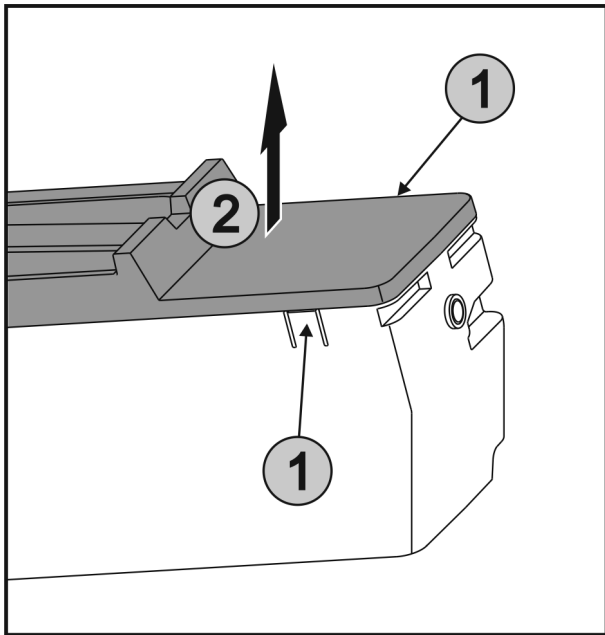

Fig. 55
- ▶ Press the lugs Fig. 55 (1) on both sides of the EasyTwist-Ice simultaneously and take off the cover Fig. 55 (2) upwards.